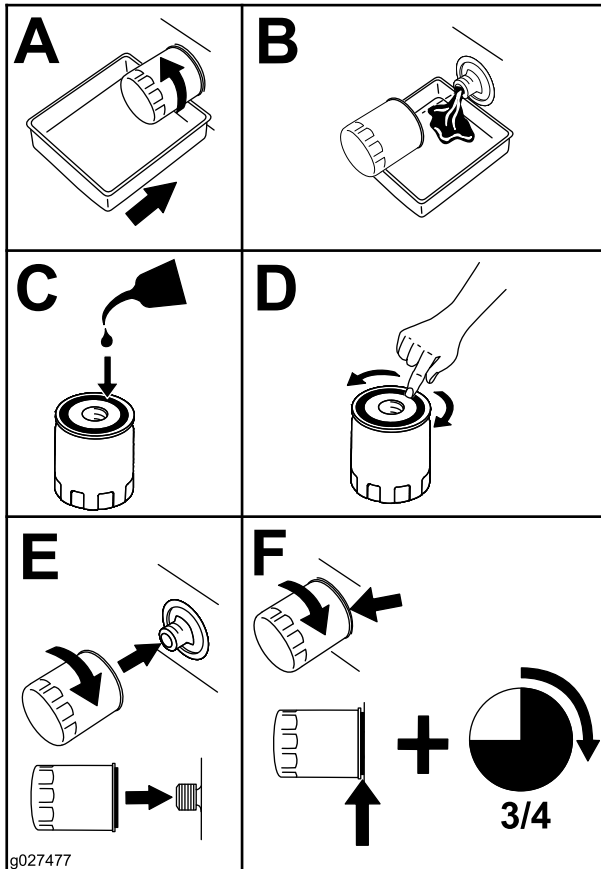

Figure 44
3. Remove the oil filter (Figure 44).